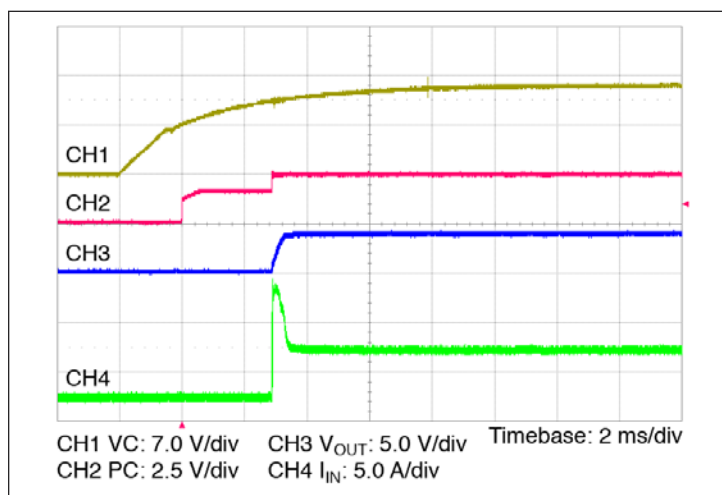

Figure 11 — Start up from application of VC;
- **Stand-alone operation (VC applied after V_{IN}):** In this case the VTM output will begin to rise upon the application of the VC voltage (See Figure 11). The Adaptive Soft Start Circuit (See Section 11) may vary the output rate of rise in order to limit the inrush current to its maximum level. When starting into high capacitance, or a short, the output current will be limited for a maximum of 120 μ sec. After this period, the Adaptive Soft Start Circuit will time out and the VTM module may shut down. No restart will be attempted until VC is re-applied or PC is toggled. The maximum output capacitance is limited to 1000 μ F in this mode of operation to ensure a successful start.